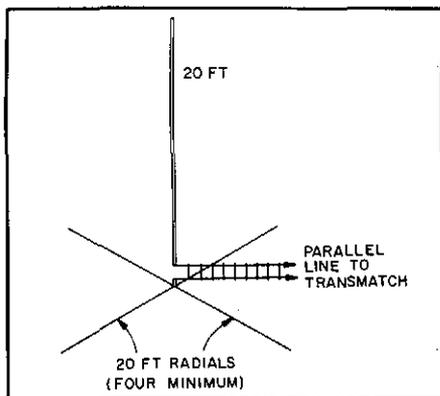

Fig 58—WB6AAM's multiband vertical-monopole antenna. Estimated gains for various amateur bands are shown in Table 5.
□ The antenna in Fig 58 is based on a multiband vertical antenna described by Arthur S. Gillespie, Jr, W4VON, in the eighth edition of *Hints and Kinks for the Radio Amateur*. I have used some alternative construction techniques and greater length to provide better multiband operation than W4VON's original.18